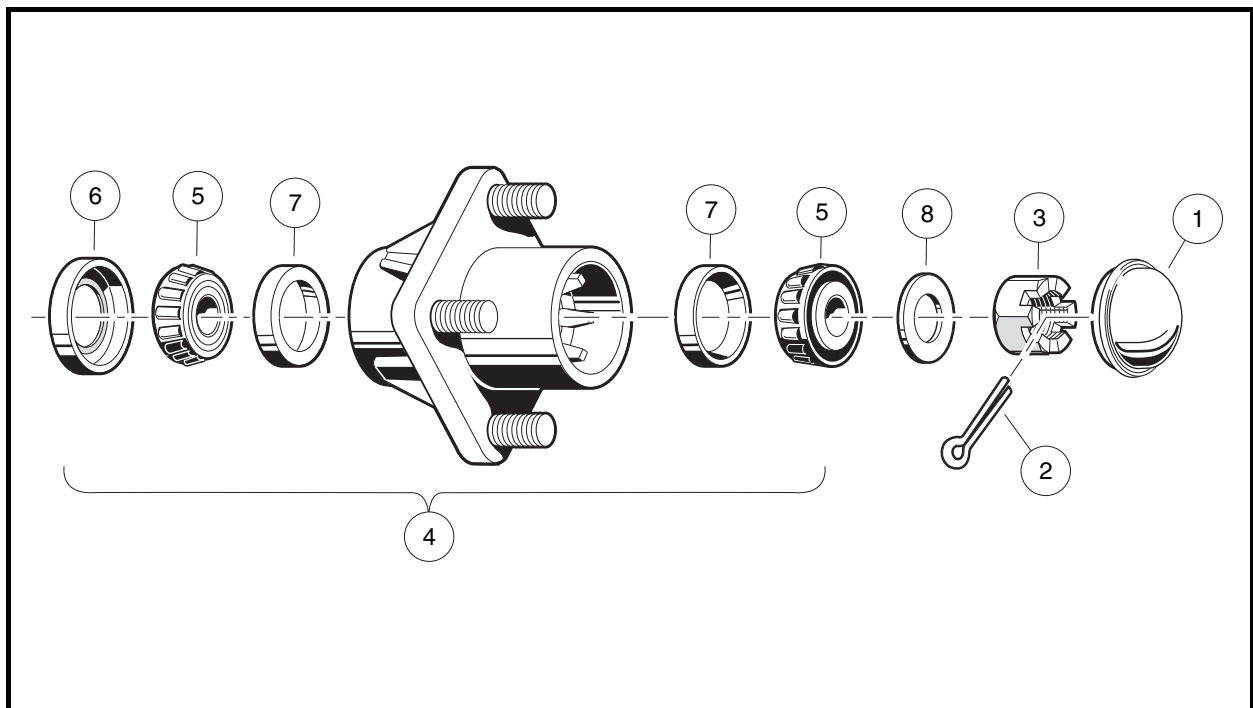

Figure 7-25 Front Wheel Bearings and Hub
2. Using your hands, attempt to rock the wheel and hub assembly back and forth on the spindle. If there is any observable movement of the wheel and hub on the spindle, remove dust cap (1) and cotter pin (2), and then tighten the spindle nut (3) until the bearing (5) fully seats in the bearing race (7).
4. Install a new cotter pin (2). If movement continues, replace the wheel bearings (5) as required (Figure 7-25, Page 7-25).
- 2.1. Remove dust cover (1), cotter pin (2), spindle nut (3), and flat washer (8) (**Figure 7-25, Page 7-25**).
1. Pack the wheel bearings (5) and hub cavities, and lubricate cups (7) with wheel bearing grease or chassis lube. Make sure the grease is forced between the rollers (**Figure 7-25, Page 7-25**).
2. If bearing cups (7) were removed, press new ones in squarely against stops in the hub. **See following NOTE.**